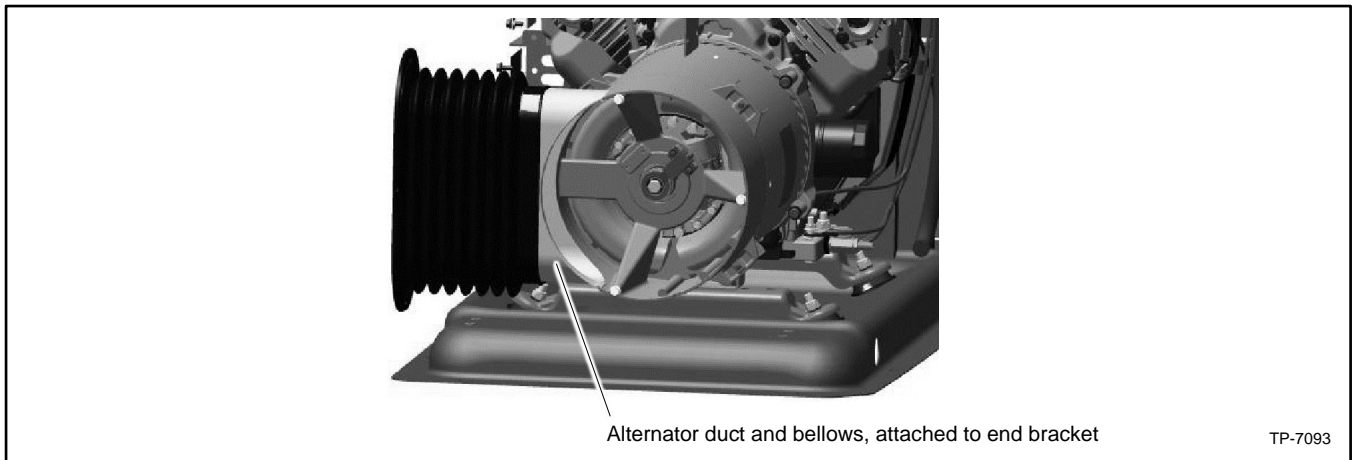

Figure 138 Alternator Duct and Bellows Installation
The opening for the alternator duct must be on the left side as you face the alternator end. Refer to Figure 138.
8. Install the alternator duct and bellows as shown in Figure 138.